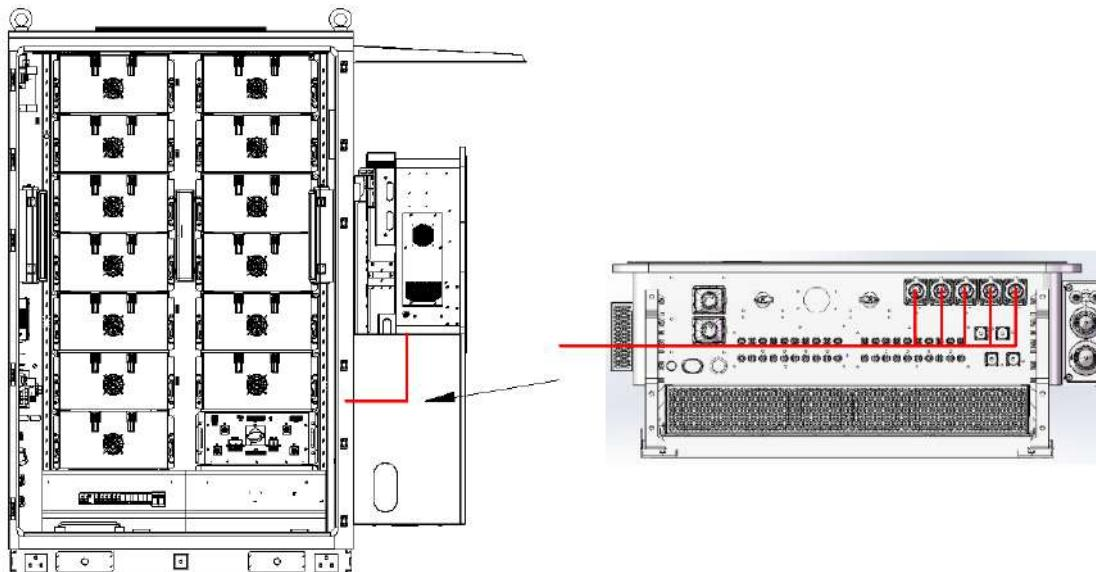

Figure 5-11 Auxiliary Power Connection
1. Connect according to the connection points shown in Figure 5-11. The following is the interface definition: